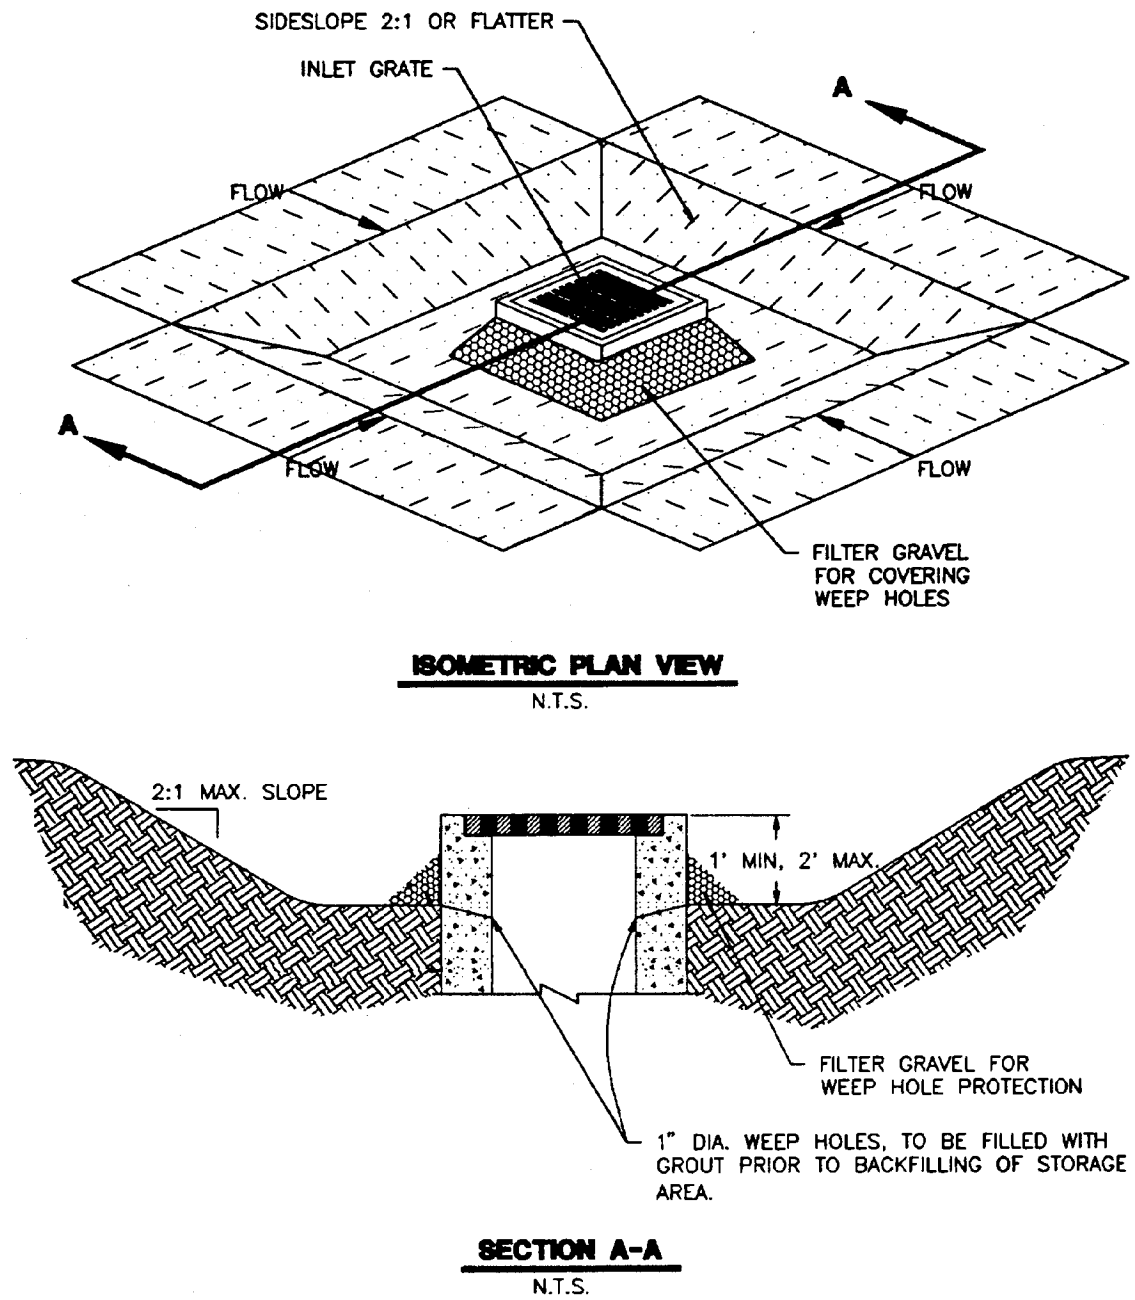

Figure 1-36 Excavated Inlet Protection (NCTCOG, 1993)
- (1) The excavated trap should be sized to provide a minimum storage capacity calculated at 3,600 cubic feet per acre of drainage area. A trap should be no less than 1-foot nor more than 2 feet deep measured from the top of the inlet structure. Side slopes should not be steeper than 2:1 (see Figure 1-36).